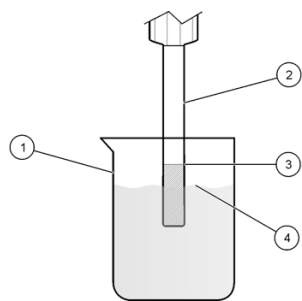

Figure 2: Measurement method
- The filling solution must be above the sample level during measurement. Refer to Figure 2.